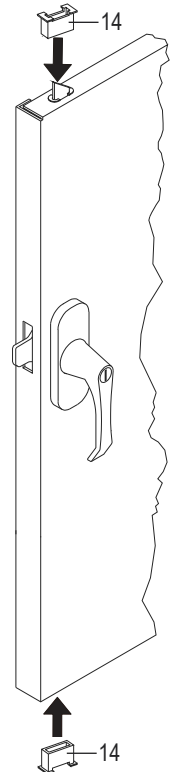

Figure 14
- Slide the nylon lock bar guides (14) over the lock bar ends and through the door slots. Push firmly until the guides snap into place. If necessary, turn the handle back to the open position and gently tap with a hammer until the guides slide into place. (See Figure 14)